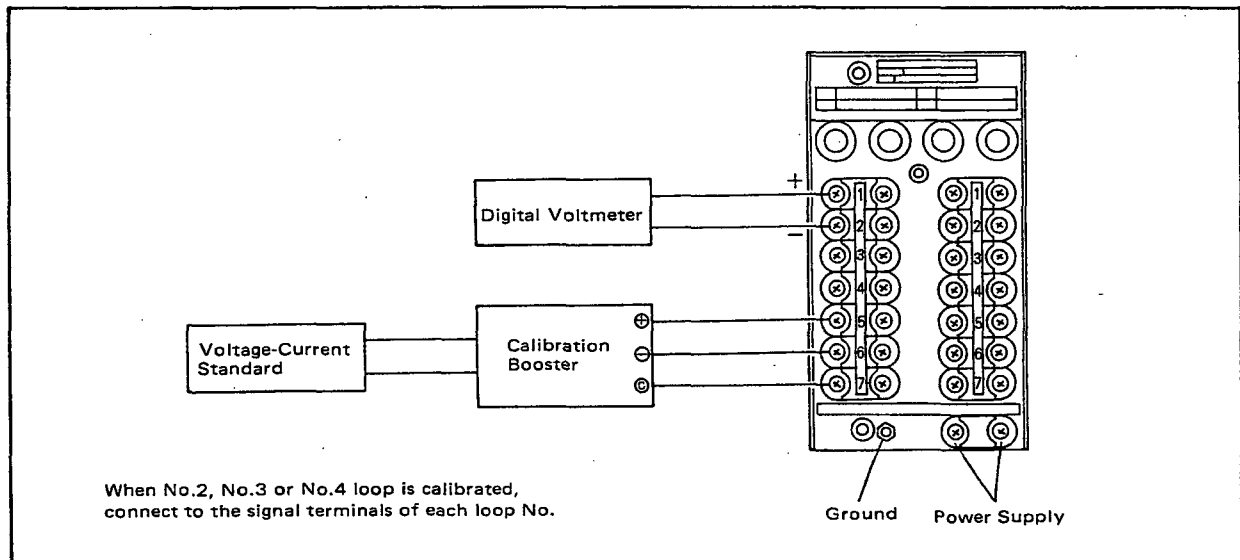

Figure 6-2. Calibration Wiring (SDBU-24□).
- (3) Connect the instruments as illustrated in Figure 6-2. Turn the power on and allow the instruments to warm up for five minutes.